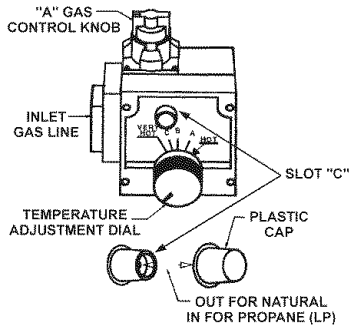

FIGURE 25.
23. Place screwdriver in slot "C", see Figure 25. Depress and turn counterclockwise (↺) to stop. Control screw must be in "IN" position for propane (LP) gas and in "OUT" position for natural gas. STOP! Read label "For Your Safety" located on your water heater.
6. Step 23, turn control screw in slot "C" in Figure 25 clockwise to stop. Screw must be in "OUT" position for Natural gas.